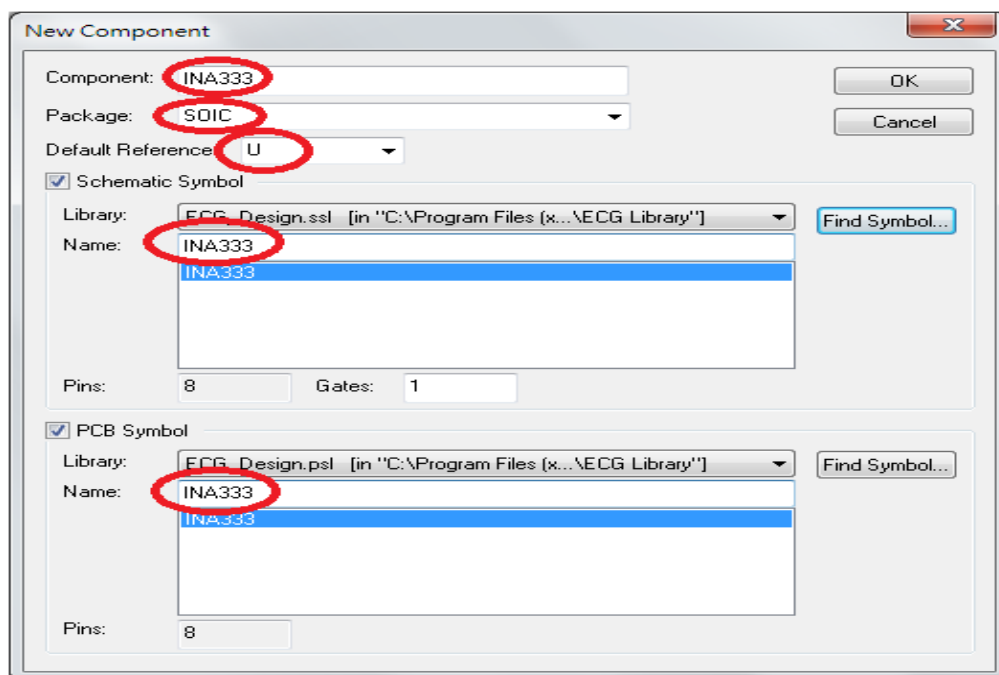

Figure 12
- The dialog should look like the **Figure12**.